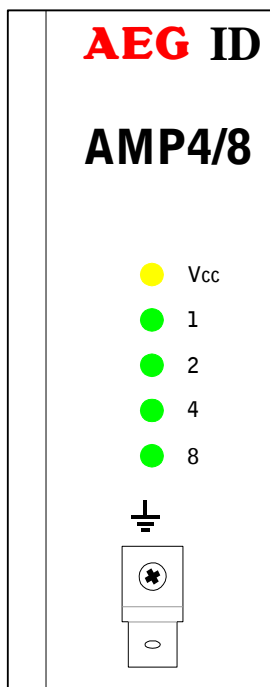

Figure 4: Pin assignment of the SAB connector
- Remove all inner parts from the cable pipe at the SAB Cab (1) (nut (5), cable fastener (3), pipe(4)) (see Figure 4)
- Put all the removed parts (nut (5), cable fastener (3), pipe (4),) and the cable pipe of the SAB Cab as well (1 to 4) to the cable.